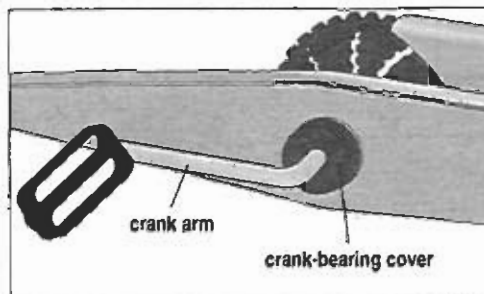

Figure 2
2. Turn the crank-bearing cover clockwise to remove it from the crank-bearing assembly (Figure 2).